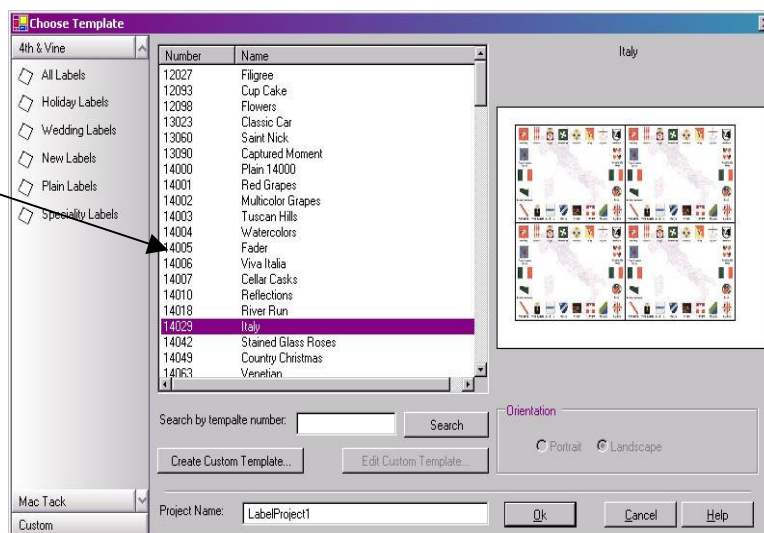

Figure 3.1.4: Selecting a template to use
2. Select the template you would like to use either by selecting it from the list manually or by using the search function (see Figure 3.1.4).